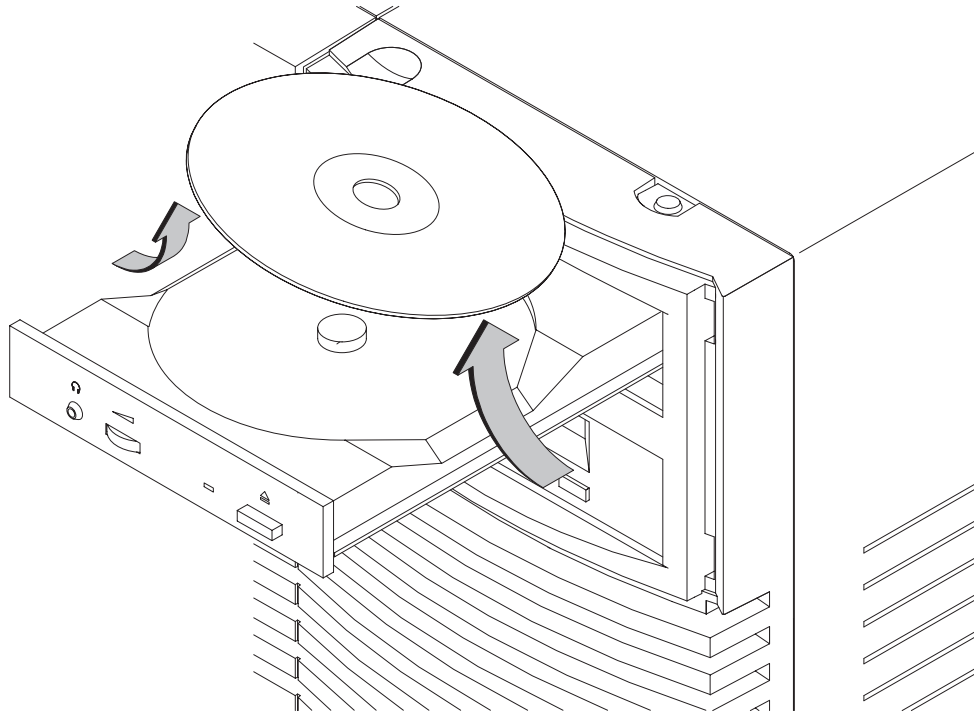

Figure 2–6. Removing the CD-ROM Disc From the Disc Tray
3. Grasp the disc by the edges and lift it out of the disc tray, as shown in Figure 2–6. Be careful to touch only the edges of the disc.